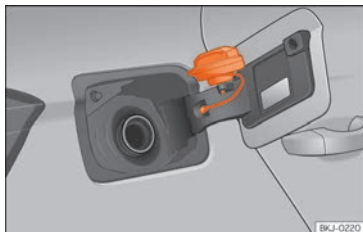

Fig. 261 Fuel tank flap with tank cap attached.
- Place it in the space on the hinge of the open flap »» **Fig. 261.**